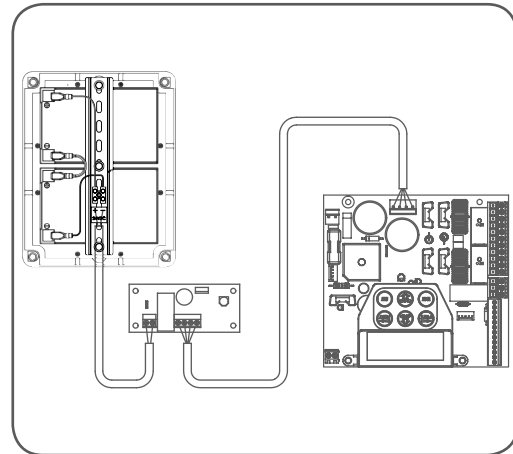

fig 55
3. Connect the SBY-3 charger board to battery box and to DCB-05 as shown (**Fig. 55**).